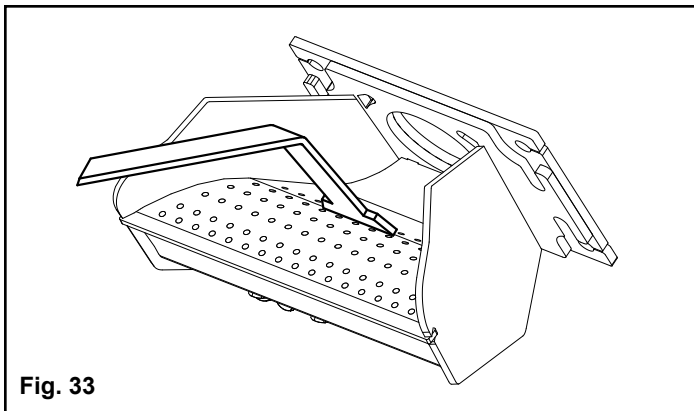

Fig. 33
4. Scrape burnpot with flat end of scraper provided with the stove. Inspect the holes on the burnpot surface. See Fig. 33.
1. Scrape the top holed surface and sides of the burn pot. (Fig 33) It is not necessary to completely remove all material from the burn pot. The excess will be pushed out during the next use.